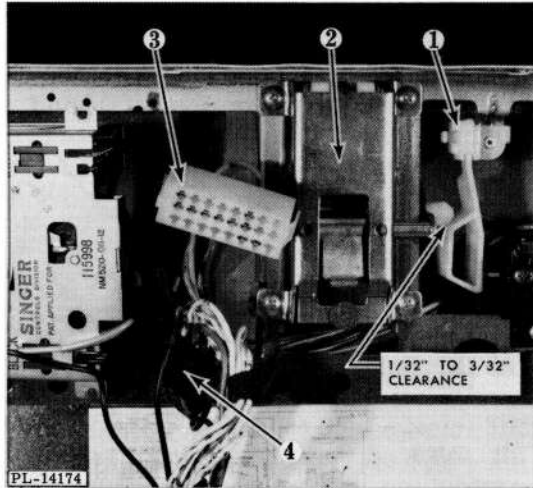
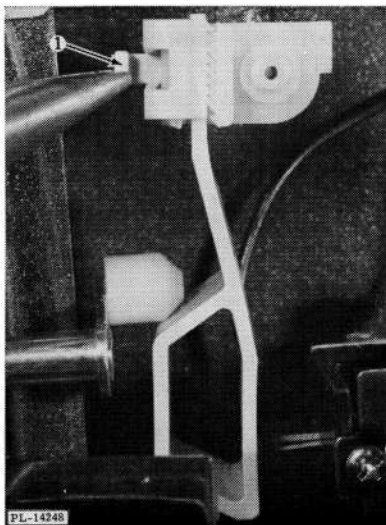

Fig. 38
Fig. 39
6. Disconnect leads in door to action indicator lights, all switches, dispensers, door frame ground, rinse agent dispenser ground, and multiple connector plugs (one white (3, Fig. 38) and one black (4, Fig. 38)). On KDS and KDP, also disconnect lead to rinse-only light.
Door Latch Mechanism (2, Fig. 38)
NOTE: When replacing a door latch, program switch or inner door panel, ALWAYS check the program switch cancel spring (1, Fig. 38). With the door handle latched and the normal cycle button depressed, check for correct clearance. The clearance between one side of the cancel spring and the switch cancel lever cap should be 1/32" to 3/32" (Fig. 38) with the other side of the cancel spring just contacting the program switch cancel bar. The program switch cancel spring is removable for adjustment by unsnapping it from the riveted anchor. Pull out on tab (1, Fig. 39) with needle nose pliers to disengage tab from detent, then pull straight forward (see Fig. 39).